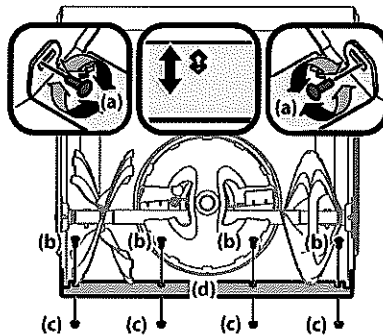

Figure 2-39
3. Loosen rear skid shoe bolts (a) on both sides of auger housing and remove carriage bolts (b) and hex nuts (c) which attach shave plate (d) to the bottom of the auger housing. See Figure 2-39.
4. Adjust the shave plate to one of 2 mounting positions. Reinstall and tighten the carriage bolts (b) and hex nuts (c) all bolts securely. See Figure 2-39.